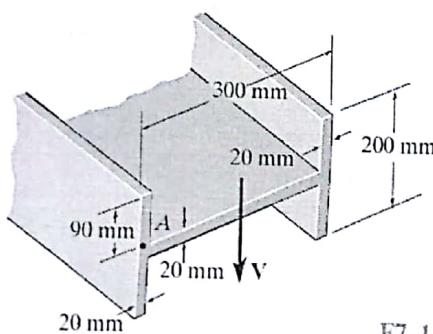

Fig. 2
- 2.** If the beam is subjected to a shear force of  $V = 100 \text{ kN}$ , determine the shear stress developed at point A. Represent the state of stress at A on a volume element. Fig. 2.